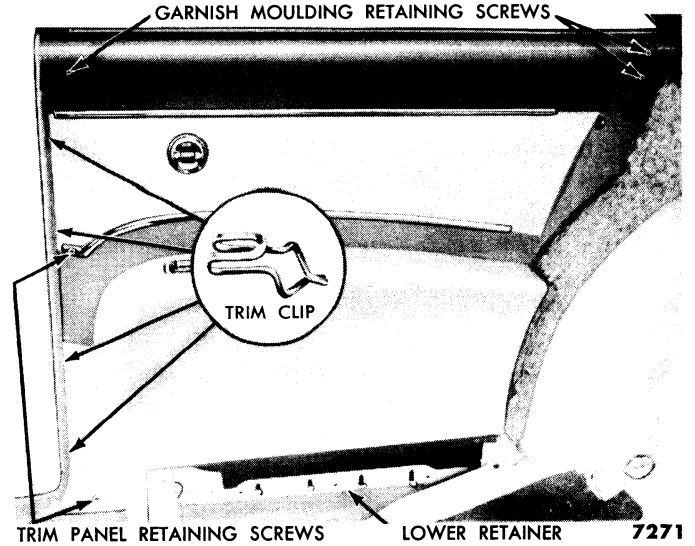

Fig. 7—Victoria Quarter Trim Panel and Arm Rest Assembly
(3) **VICTORIA.** Remove the rear seat cushion, remove two retaining screws at the lower edge of the seat back, and remove the seat back (fig. 7).
Position the trim panel and arm rest assembly in back of the lower retainer, fasten the forward edge of the trim panel to the quarter panel with four trim clips, and install the two retaining screws at the forward edge of the panel (fig. 7). Install the garnish moulding over the top edge of the trim panel, then secure the moulding in place with the two retaining screws at the rear and one at the front. Install the seat back and seat.